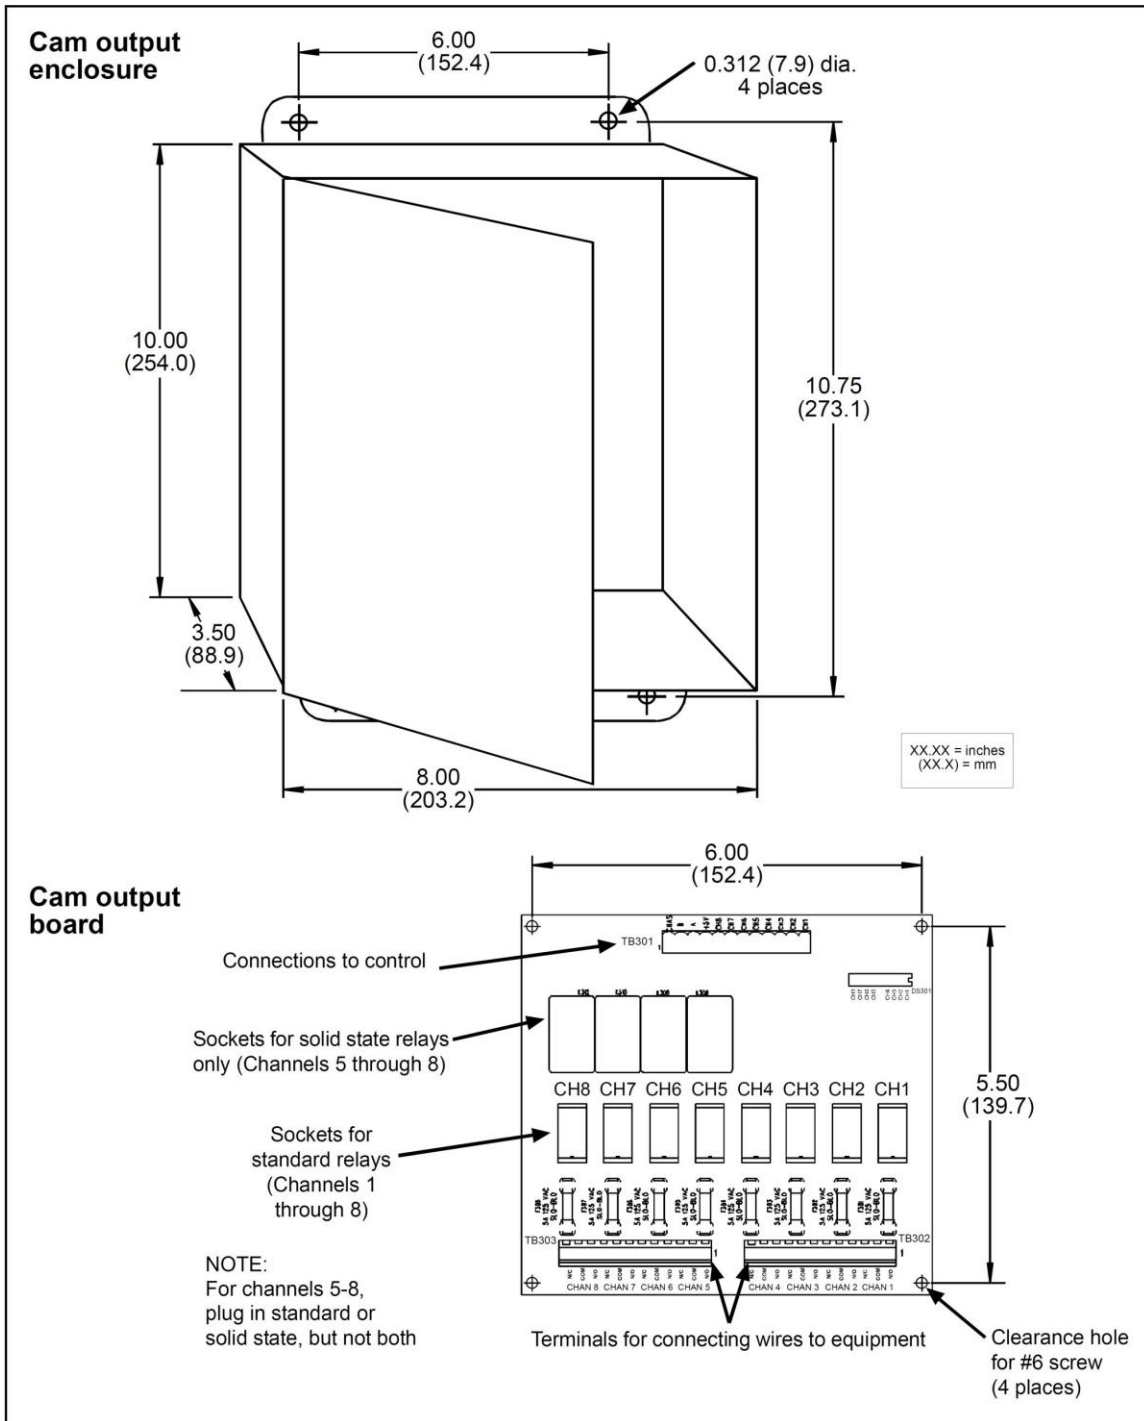

Figure 2-11. Cam outputs assembly
2. Mount the cam output assembly using mounting holes on the flanges (see Figure 2-11).